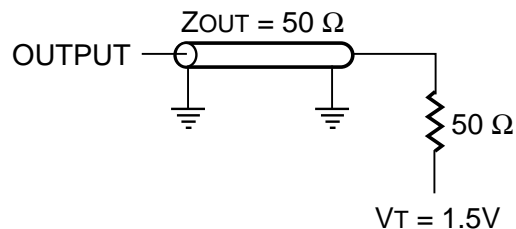

Figure 1a.
- Test conditions assume signal transition times of 3 ns or less, timing reference levels of 1.5V, input pulse levels of 0 to 3.0V and output loading specified in Figure 1a.
Output Load	See Figures 1a and 1b
1. Test conditions assume signal transition times of 3ns or less, timing reference levels of 1.5V, input pulse levels of 0 to 3.0V and output loading specified in Figure 1a.